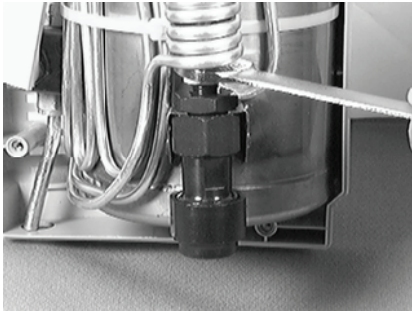

Figure 22: QDV Tube Nut Removal
- 2) Use a 9/16inch open-end wrench to disconnect the tube nut at the female adaptor (Figure 22).